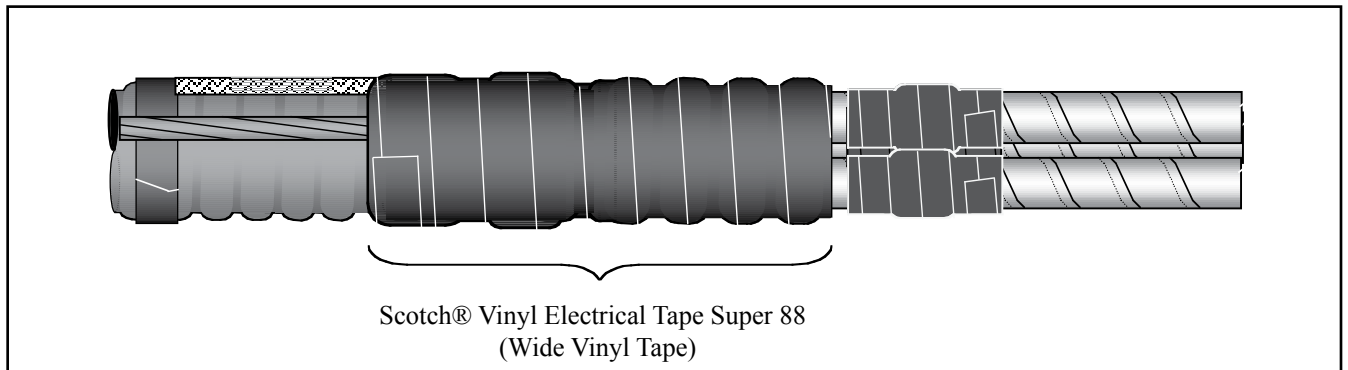

Figure 7
2.10 Apply two half-lapped layers of Scotch® Vinyl Electrical Tape Super 88 (wide vinyl tape) over looped ground wire area (*Figure 7*).